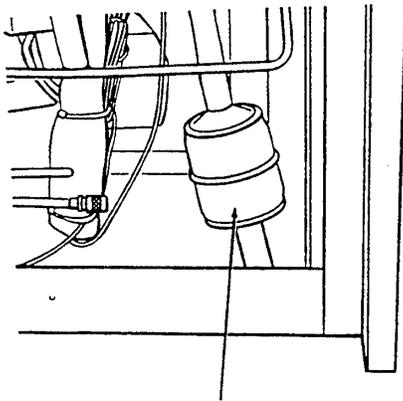

Figure 43. Filter Drier
5. Replace the filter drier using the appropriate brazing material (Figure 43).